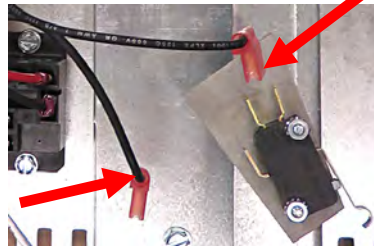

Figure 9
10. Using needle nose pliers, remove both wires from the bottom right switch, as viewed from the rear of the fryer (see Figure 9).
13. Using needle nose pliers, remove both wires from the bottom left switch, as viewed from the rear of the fryer (see Figure 9).